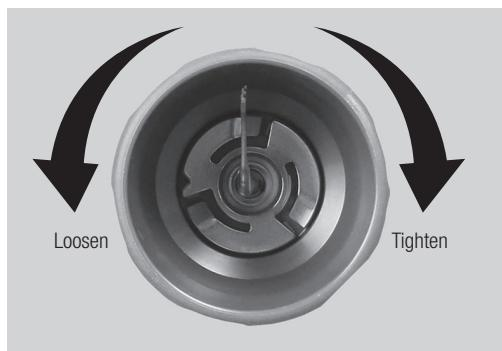
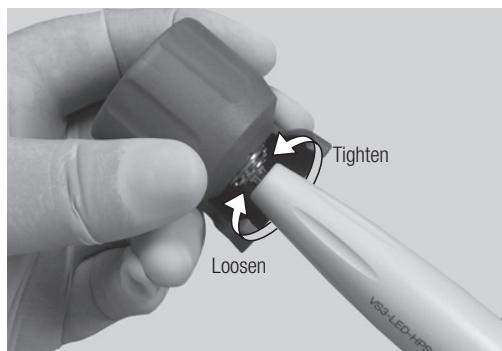

Fig. 17
Fig. 18
- 3) Rotate the wrench in the (clockwise) direction, (Fig. 17 and 18) until it makes a click sound and cannot rotate any further.
- * To remove the Tip, rotate the wrench in the (counter-clockwise) direction shown in Fig. 17 and Fig. 18.